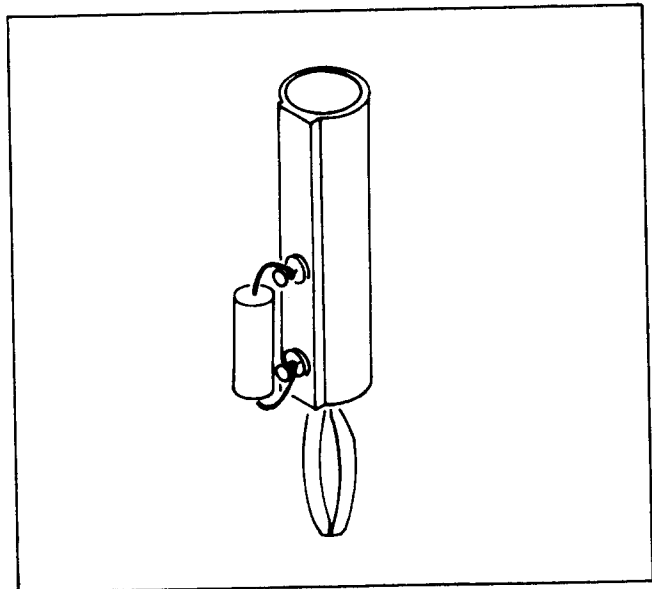

Figure 4-2. 19Ω and 1.9Ω Test Sets
- 4-22. The components needed are one 19 ±0.05% Ω precision resistor and one single banana connector with two terminal isolation. The Pomona connector, model number 1390-2, and the Dale Electronics, Inc., precision RS-1/4 resistor specified for 19 ±0.05% Ω, will meet the requirements for the 19Ω Test Set. See Figure 4-2 for assembly.
- 4-24. The components needed are on 1.9 ± 0.05% Ω precision resistor and one single banana connector with two terminal isolation. The Pomona connector, model number 1390-2, and the Dale Electronics, Inc., precision RS-1/4 resistor specified for 1.9 ±0.05% Ω will meet the requirements for the 1.9Ω Test Set. See Figure 4-2 for assembly.